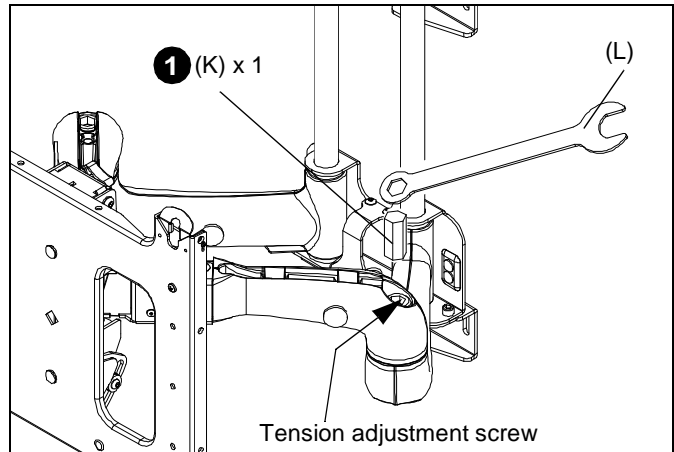

Figure 12
1. Place adjustment insert (K) into tension adjustment screw located at swing arm pivot point. (See Figure 12)